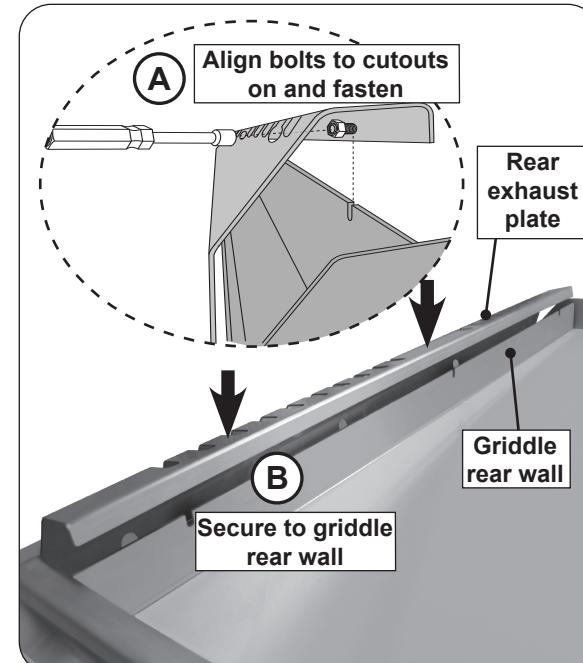

Fig. 32-4 Install rear exhaust plate
1. Take the rear exhaust plate and align the three bolts (with pre-installed nuts) to the three cutouts on the griddle rear wall (see Fig. 32-4, A).
2. Fasten the nuts using a nut driver. Insert nut driver through the rear vent slots to tighten (see Fig. 32-4, A & B).